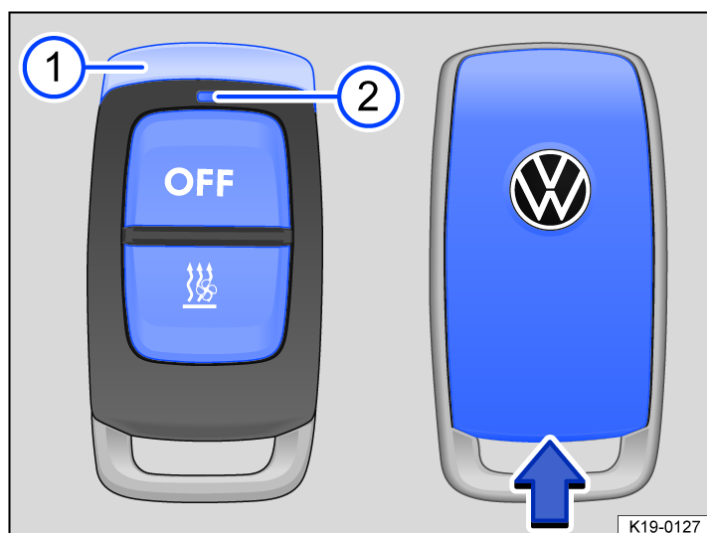

Fig. 1 Auxiliary heater: remote control (left) with battery compartment for the button cell (right).
— Switching on: press the  button for approximately one second → Fig. 1.
— Switching off: Press the  button for approximately one second → Fig. 1.
indicates various operating states after you press a button → Fig. 1 (2).